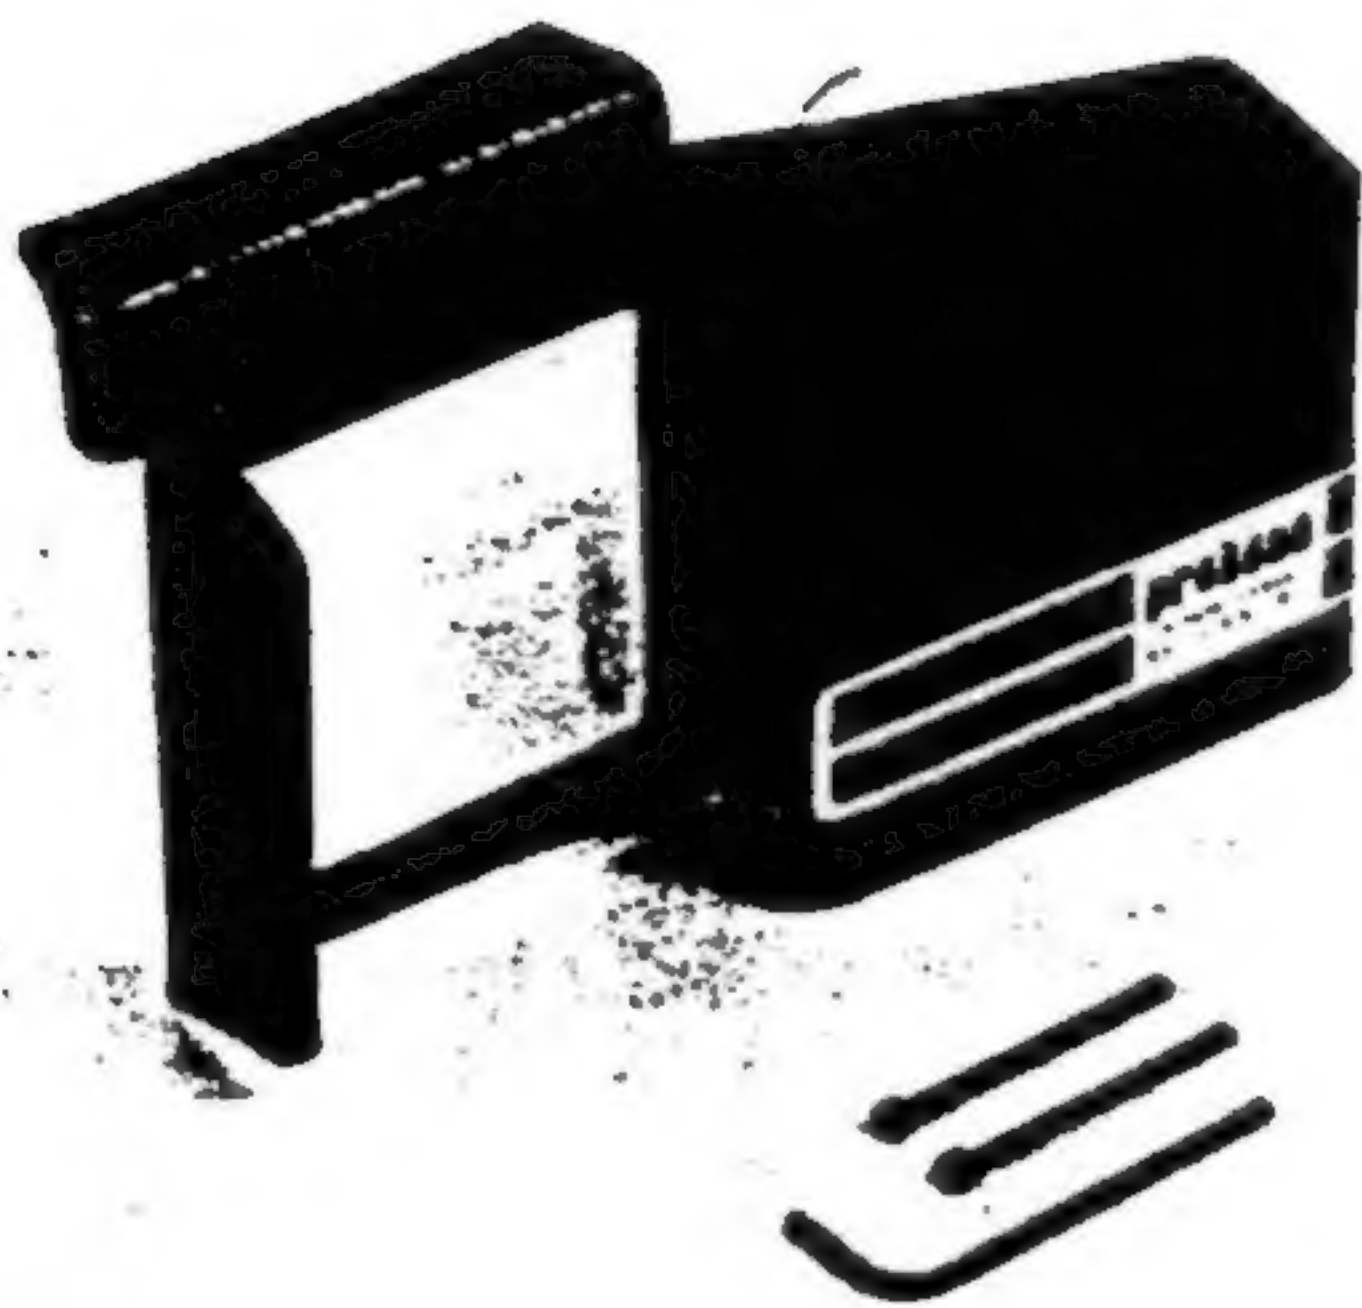

Figure 7
A. The assembly is mounted on the front of the unit. Remove existing Allen screws on either side of the front IR window with wrench provided (see Figure 7).